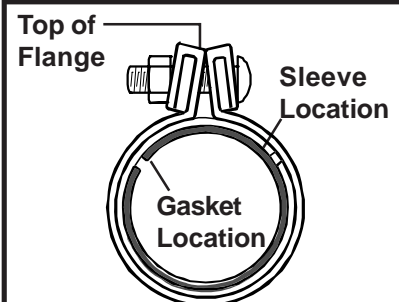

Figure 3
7. When properly and evenly tightened to the recommended torque the coupling installation is complete. The top edges of the flanges will touch and flanges appear as a vee when viewed from the end, as shown in Figure 3. **DO NOT** attempt tightening bolts to flatten flange faces together, as this exceeds recommended limits.